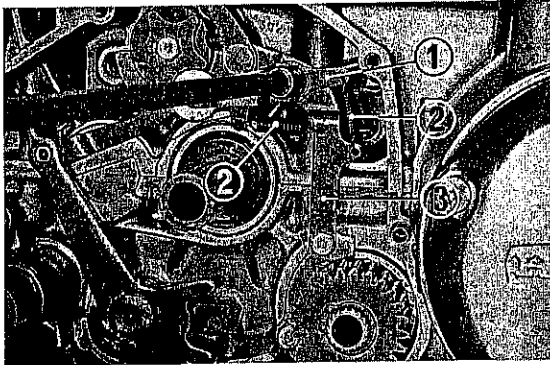

Fig. 1-3 ① Shift drum stop
1. As shown in Fig. 1-3, attach one of the shift drum stop springs to the shift drum stop and shift drum neutral stop, then attach the other shift drum stop spring to the arm and body of the shift drum stop. Secure the shift drum stop and shift drum neutral stop using the neutral stop bolt and shift drum stop bolt and collar.